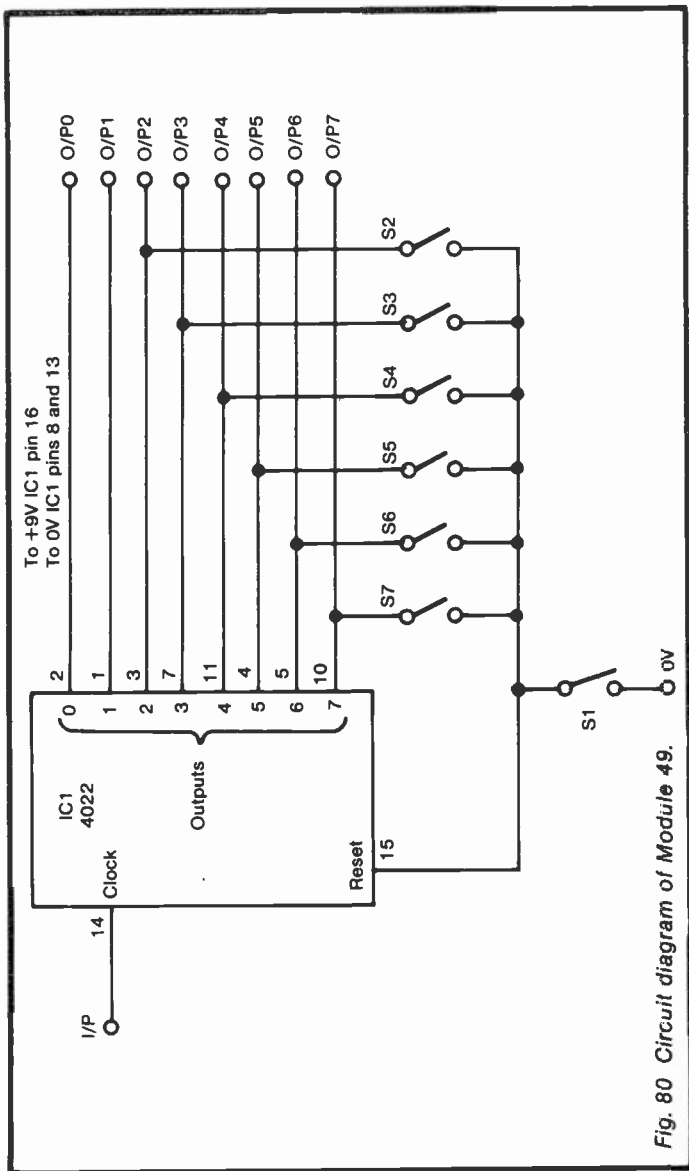

Fig. 80 Circuit diagram of Module 49.
*Circuit diagram:* see Figure 80.